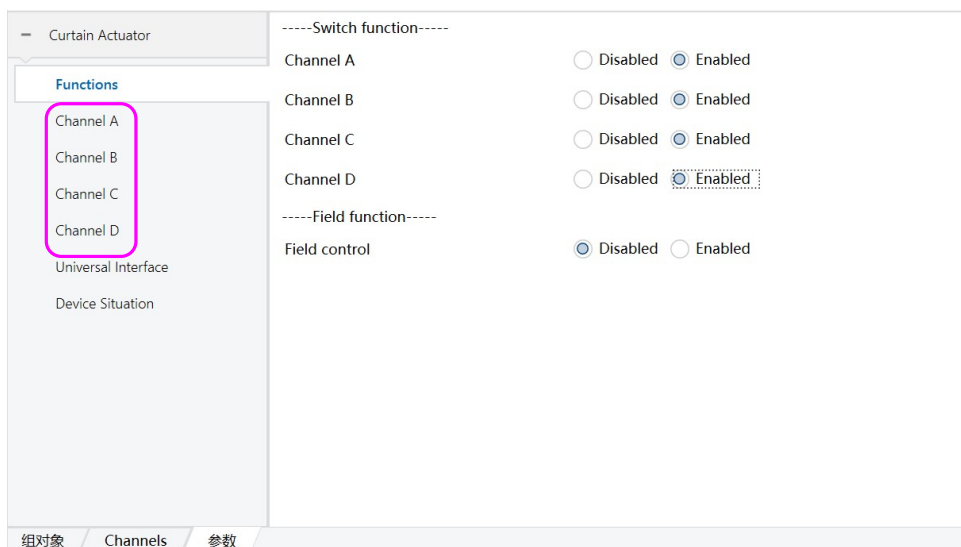

Figure 6.1.2
2) After setting, the interface is shown in Figure 6.1.2, and 4 options in the red block as shown in figure